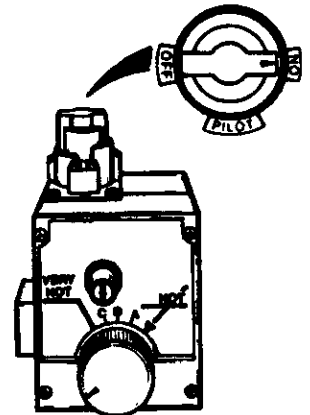

Figure 7
11. At arms length away, turn gas control knob counter-clockwise () to the full "ON" position. **WARNING: Do not use gas control knob to regulate gas flow.** (Figure 7, page 19)